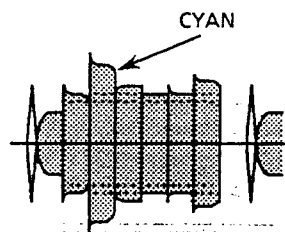

Figure 2-16.
- Adjustment R5348 (REC-C.) so that the amplitude of the cyan portion is $23 \pm 1\text{mVp-p}$ (When the LP mode) as shown in Figure 2-16.